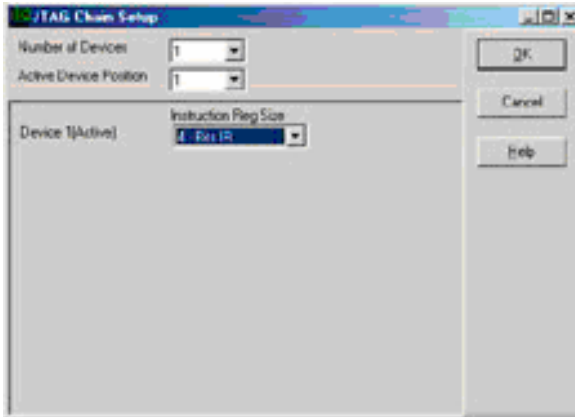
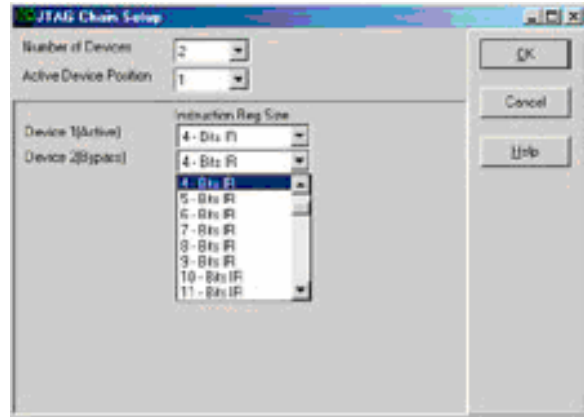

Figure 2-16: JTAG Chain Setup Screen.
Figure 2-17: Setup Screen with Two Devices
- **JTAG Chain** configuration is used if the ARM device is not the only chip connected to the JTAG, or if the chip has multiple JTAG controllers (Figure 2-16).
This button is used to configure the number of devices and the Instruction Length for each device. This is only available during the initial configuration. If you click the **Configure** button, Figure 2-16 or Figure 2-17 appears depending on the number of devices that were entered.
This is used to set the total number of devices in the JTAG Scan Chain (Figure 2-17).
- **Instruction Reg Size:** There will be a drop down list for each of the devices. If the number of devices is set to more than one, there will be a drop down list for each device (Figure 2-17).